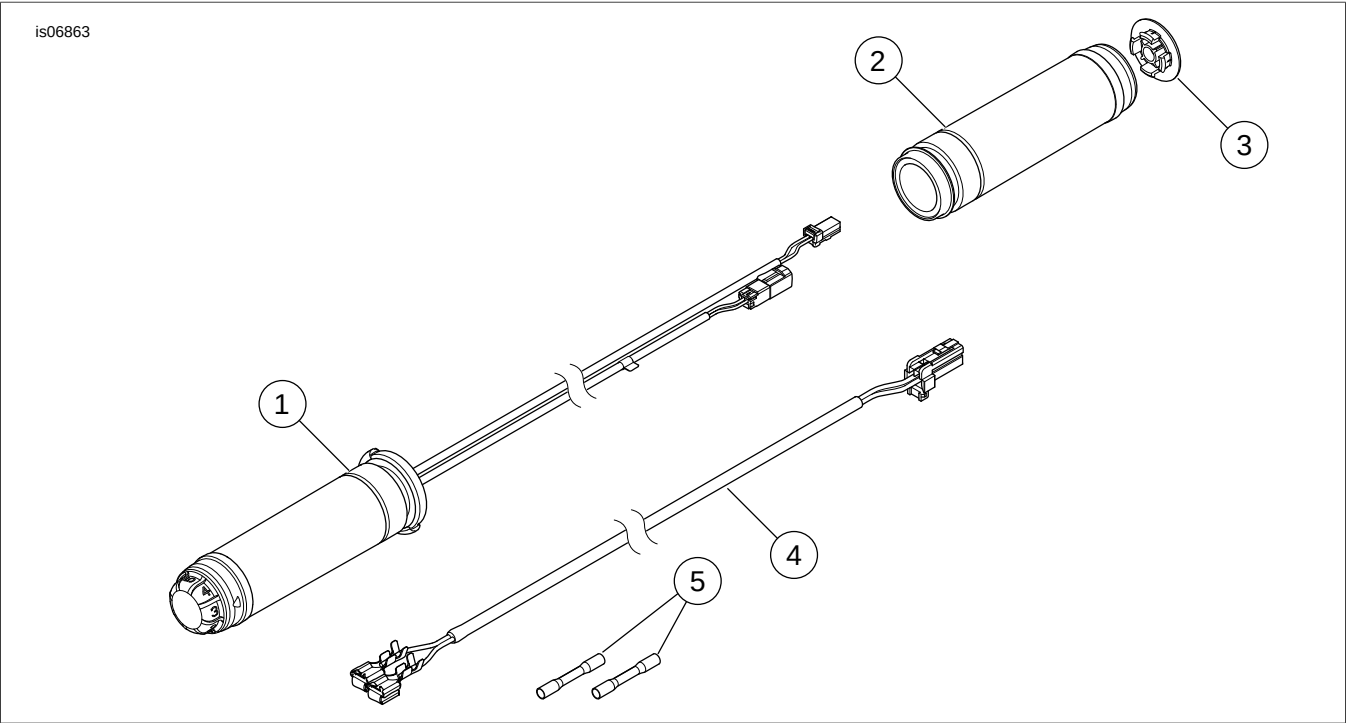

Figure 9. Service Parts, Heated Hand Grip Kit
- See Figure 9. Obtain harness assembly from kit. Cut the two spade terminals from harness.
- See Figure 9. Splice into fender tip light wiring near connector using two splice connectors (5) from kit.